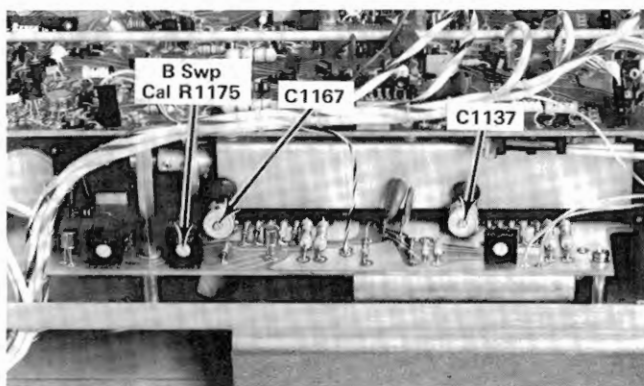

Fig. 5-31. Location of High Speed Timing and B Sweep Cal adjustments.
d. ADJUST—B Sweep Calibration adjustment, R1175, (see Fig. 5-31) for 1 time marker/division.
d. ADJUST—A High Speed Timing adjustment, C1137, (see Fig. 5-31) with the low-capacitance screwdriver, for one time marker/division.
- e. ADJUST—B High Speed Timing adjustment, C1167, (see Fig. 5-31) for one time marker/division.